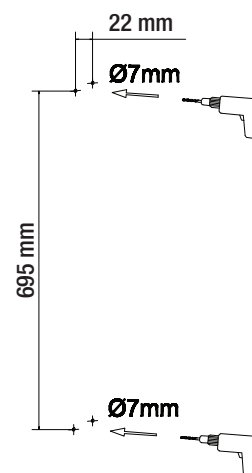

Fig. 10
- Mark the drill holes $\varnothing 7$ mm (1/4"), as shown in Fig. 10. The two holes are 765 mm (30") in vertical distance from each other. **BE EXTREMELY CAREFUL WHEN DRILLING IN THIS AREA. STOP IMMEDIATELY IF THERE IS ANY CHANGE IN THE SOUND THE DRILL MAKES OR IF THERE IS ANY TRACE OF METAL SEEN.**